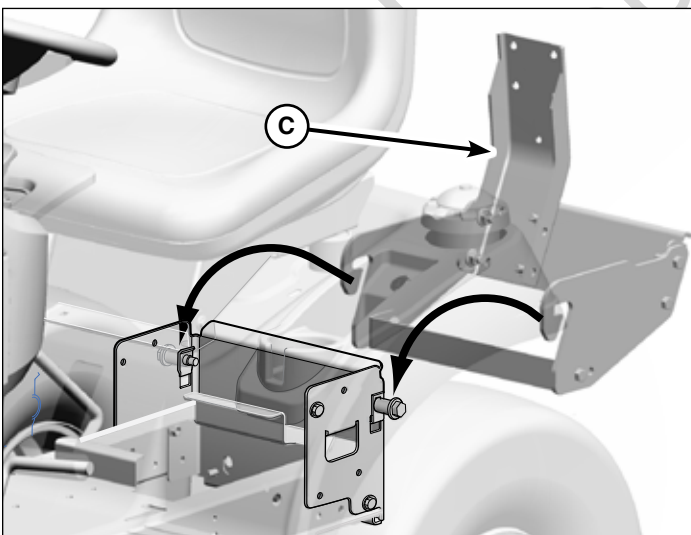

Figure 2
3. Put the upright support assembly (**C**, Figure 2) onto the shoulder bolts.